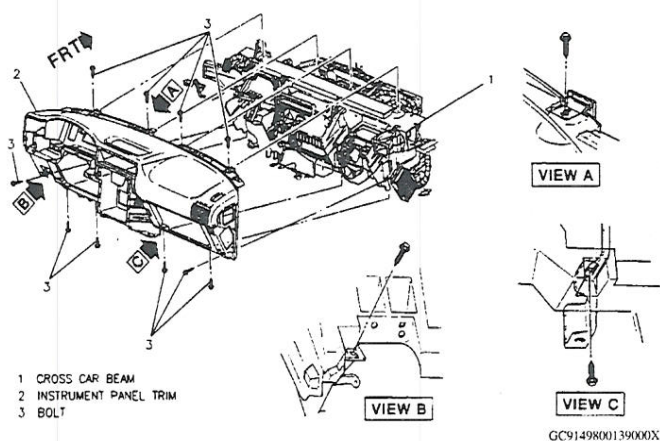

Fig. 20 Instrument panel removal. 1998 Trans Sport & 1998-2001 Silhouette & Venture & 1999-2001 Montana
17. Remove instrument panel from vehicle as illustrated in Fig. 20.